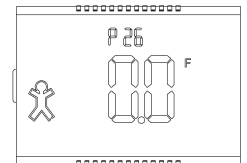

Fig. 11: Temp Offset
- 1) Remove cover from backplate & slide the "MODE" switch on S1 to the "OFFSET" position. The screen in figure 11 will appear on the display. If you previously entered an offset, the offset you entered will show on the display. Either the F or C annunciator will be lit depending on the position of "F/C" Switch
- a. TEMPERATURE OFFSET - Screen P26 (figure 11)